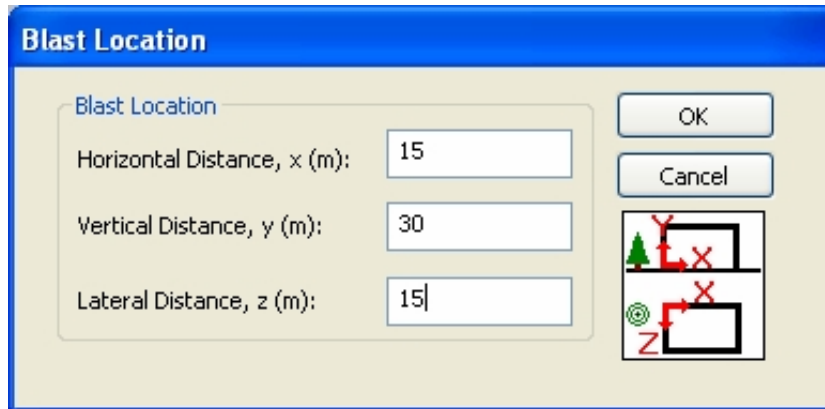

Figure 13 Example Blast Location dialog box.
7. Select the **Analysis/Blast Location** menu to bring up the Blast Location dialog box and enter the blast location dimensions as shown in Figure 13.